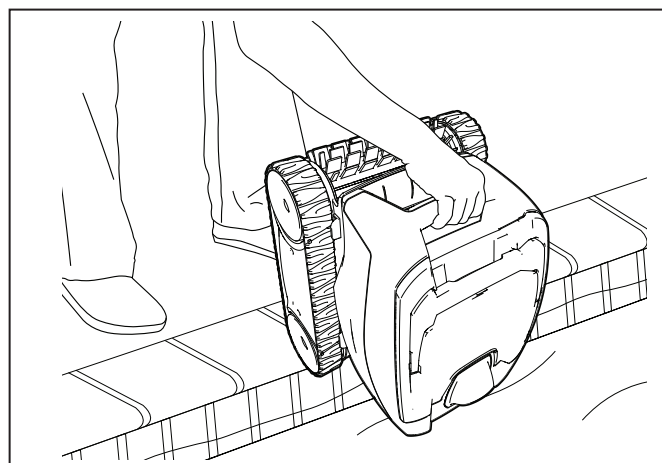

Figure 15. Lift Cleaner From Pool with Handle
1. Gently pull the floating cable to bring the cleaner within arm's reach. When the cleaner is within arm's reach, use the handle to remove from the water (Figure 15). Never lift the cleaner out of the pool by the floating cable.